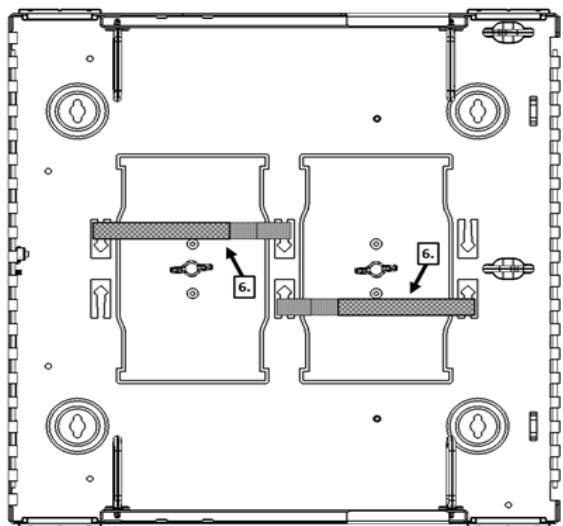

Figure 9
5. Secure the VELCRO to the trays (Figure 9).